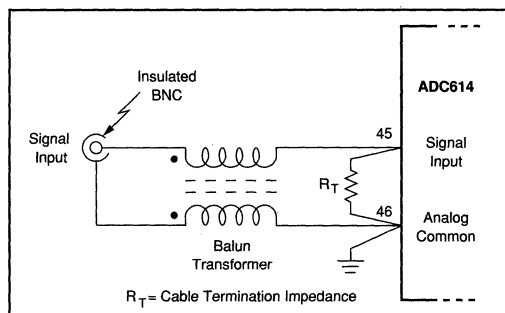
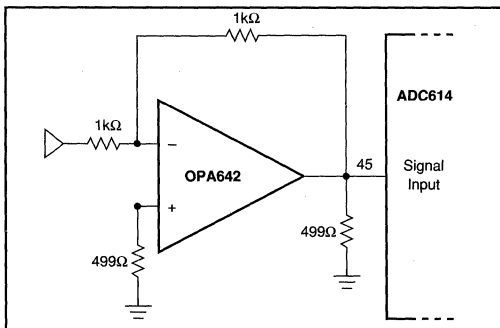

FIGURE 6. Floating-Input Balun Transformer.
FIGURE 8. Single Ended Input Amplifier (Gain = -1V/V).
- Floating inputs can eliminate ground-loop noise. A simple common-mode choke shown in Figure 6 and 7, or a single-ended amplifier (Figure 8 and 9) can be used for gain. Optimized harmonic performance can only be achieved with a very low distortion buffer. Burr-Brown OPA642 is an ideal op amp for driving the ADC614.